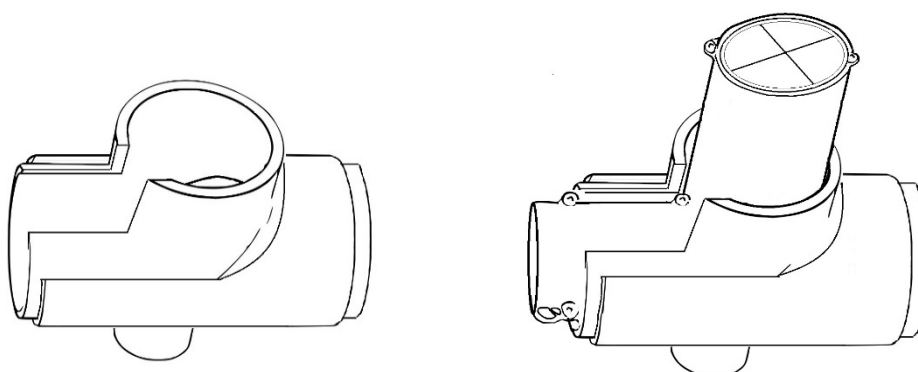

Figure 5. The densitometer should fit snugly inside the PVC tee socket and the PVC socket within the PVC faucet tee
- 10 Once everything fits, tighten one hose clamp around the front of the faucet tee and one around the neck of the faucet tee (Figure 5).